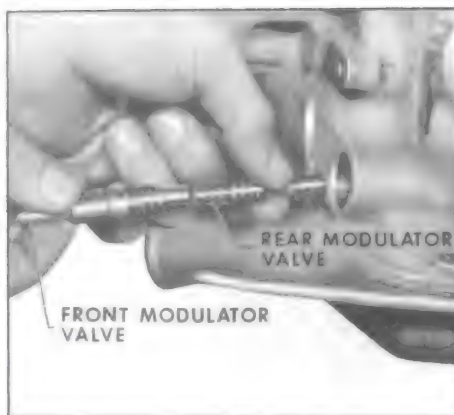

Figure 5-362
1. Slide rear modulator valve into front modulator valve then install into bore in case. See Figure 5-362.